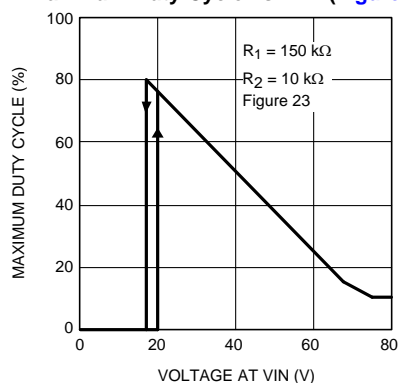

Figure 13.
**Line Voltage Maximum Duty Cycle.** The voltage at the UVLO pin, normally proportional to the voltage at VPWR, further limits the maximum duty cycle at high input voltages. Referring to Figure 13, when the UVLO pin is below 1.25V, the outputs are disabled. At UVLO = 1.25V the maximum allowed duty cycle is 80% (or less if limited by the DCL resistor). As the UVLO pin voltage increases with VPWR, the maximum duty cycle decreases, reaching a minimum of 10% at  $\approx 4.5$ V. Referring to Figure 3 the UVLO voltage, after passing through an inverting gain stage, is compared to the Ramp1 and Ramp2 signals generated by the oscillator. The output of these comparators are the MaxDC1 and MaxDC2 timing signals. These signals are provided to the two 4-input AND gates which limit the PWM pulses delivered to the output drivers.